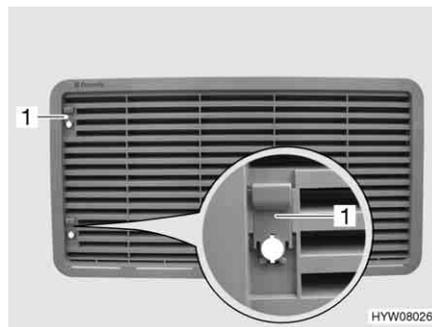

Fig. 157 Refrigerator ventilation grill (with sliding trap)
- Push sliding trap (Fig. 157,1) upward.